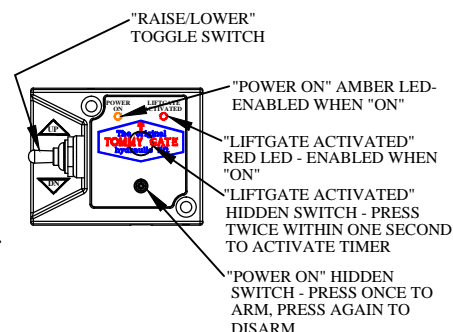

Figure 2: Control terms.
- Step 4. To turn the control power on, press the "POWER ON" hidden switch once, marked with white rings or circles (located below the Tommy Gate logo). You should see the amber LED "POWER ON" light when the control is armed. To disarm the control press the "POWER ON" hidden switch again. Terms used for the control are shown in (Figure 2).